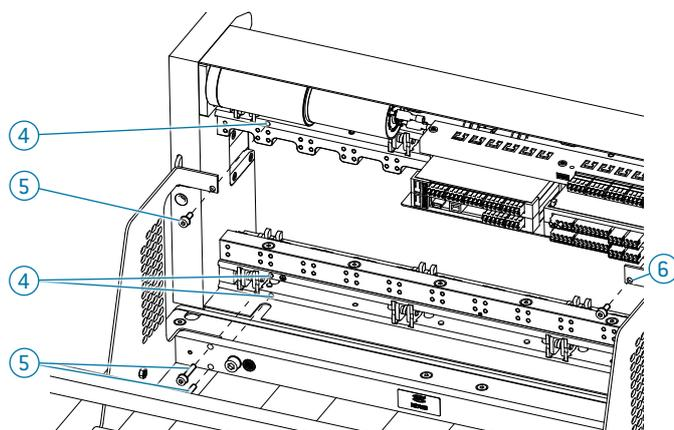

Fig. 95
- ▶ Pull out the slide mount ①.
- ▶ Guide the top left bracket ⑥ of the slide mount behind the controller (Fig. 95).
- ▶ Position the receiver ② so its fixing points ④ align with the fixing points on the slide mount ③. Screw the slide mount onto the receiver fixing points.